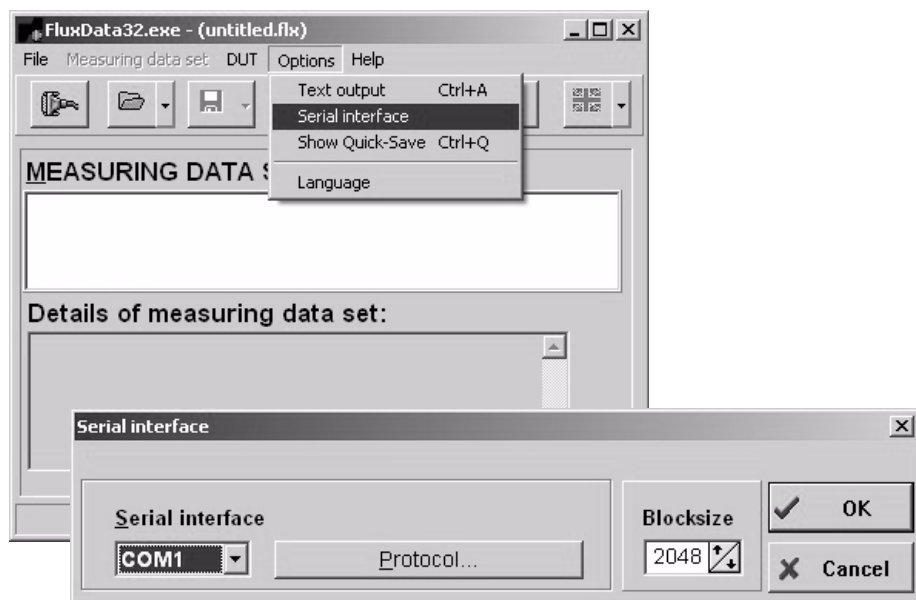

Fig. 13.1: Selection of the serial interface
- In the program FluxData, open the menu "Options" and select "Serial interface". Select the Default protocol and the serial port of the PC that the transmitter is connected to (e.g. COM1 in Fig. 13.1). Click on OK.